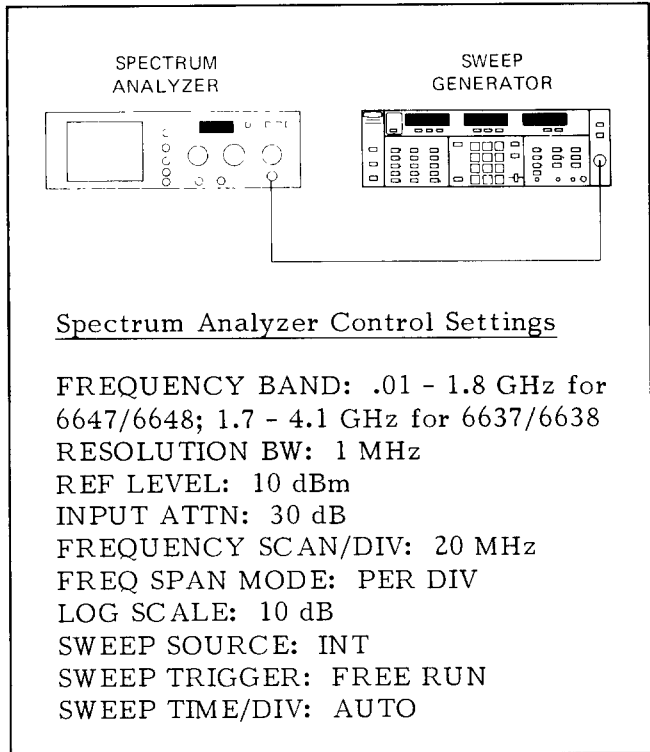

Figure 4-14. Test Equipment Setup for RF Output Signal Tests
1. Connect test equipment as shown in Figure 4-14, and turn the equipment on.